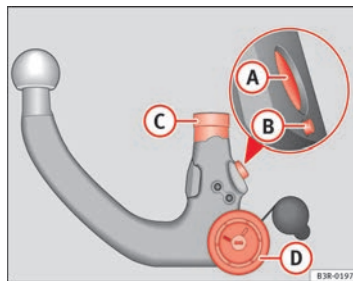

Fig. 164 Removable
- Check the locking pin **(A)**, release pin **(B)**, shaft section **(C)** and knob **(D)** ⇒ page 204, fig. 164 on the ball joint to make sure they are clean and undamaged.